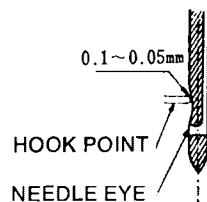
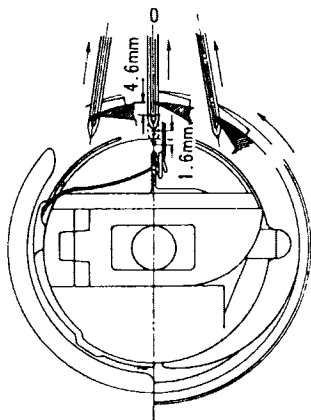

FIG. 2
FIG. 3
- 5) At this position, the point of the sewing hook should be at the center of the needle and very close to the needle without touching it. Fig. 3.
- 7) Next it is necessary to determine the correct height of the needle bar. Push the knee lifter so the stitch width is the widest and turn the balance wheel forward by hand so that the needle is rising on the left hand side and meets the point of the hook. At this position, the point of the hook should be just above the eye of the needle, as in Fig. 2 and Fig. 3.